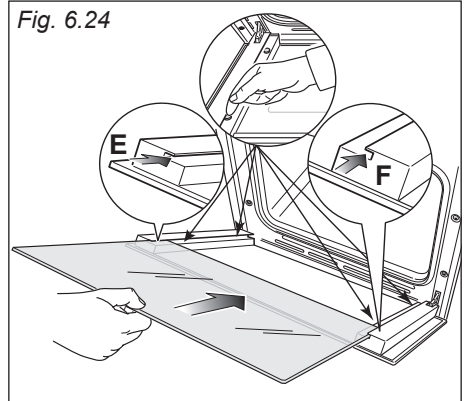
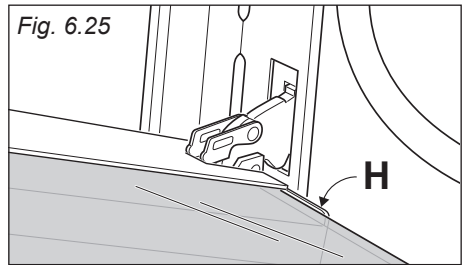

Fig. 6.24
Fig. 6.25
- **IMPORTANT:** It is advisable, while refitting the glass, to keep pressed in position the four rubber pads "D", by a finger, to avoid breakage or slippage of the rubber pads themselves (fig. 6.24).
- Insert the pane in the left "E" and right "F" slide guides (fig. 6.24), and gently slide it to the retainers "H" (fig. 6.25).